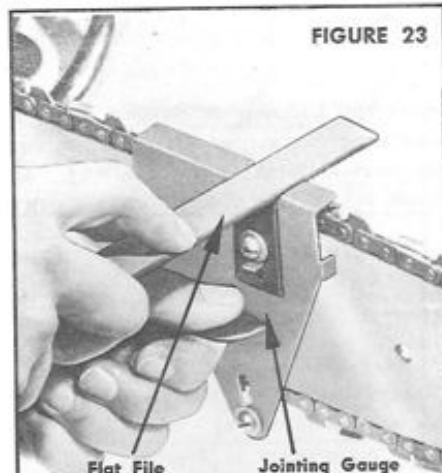

FIGURE 23
1. Using Jointing Gauge #470163 as illustrated is simple and accurate. First preset the adjustable plate, using the feeler gauge supplied, to the recommended joint. Next place jointing tool on top of the chain with the depth gauge protruding through the slot in the jointing plate and resting on the two cutters near the centre of the bar. Using a flat file, file the depth gauge to the level of the jointing tool plate. **WARNING:** Always work near the centre of the bar and move the chain each time, NOT the tool. This is necessary due to the contour of all cutter bars. To operate your jointing tool at various positions could give an uneven joint and a rough cutting chain. (Figure 23).